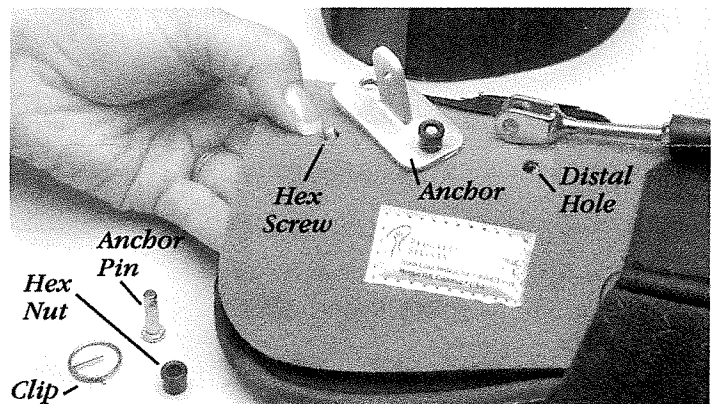

Figure 1
- For the **small, medium and large** orthosis, unclip the forearm end of the turnbuckle and remove the **distal** hex screw from the attachment anchor. (A screwdriver and hex wrench may be needed to do this.) Loosen the other hex nut slightly. Rotate the attachment anchor around so the hole lines up with the predrilled hole at the end of the orthosis (Figure 1). Replace the hex screw and tighten the nut. Reattach the turnbuckle to this piece.